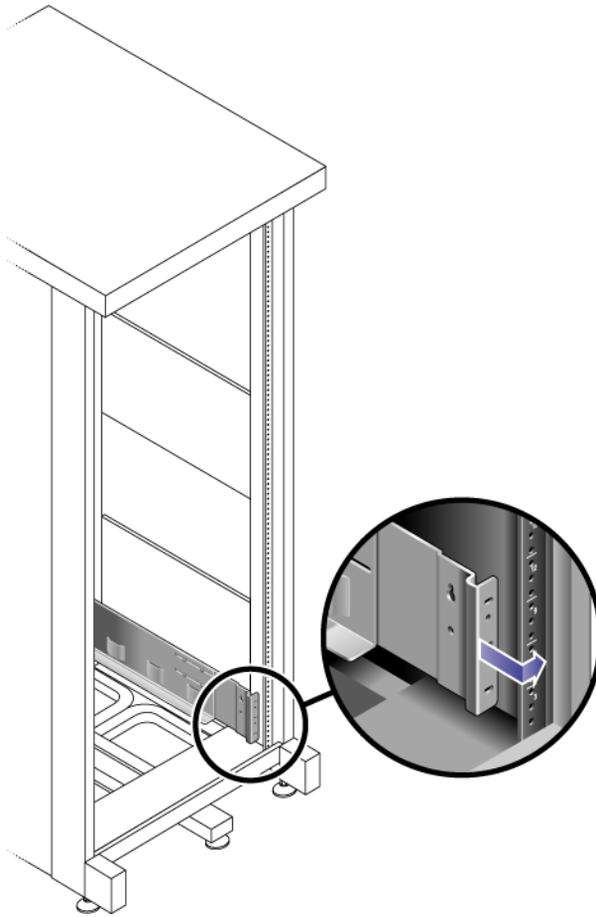

FIGURE 2-4 Adjusting the Length of the Left Rail at the Back of the Cabinet
4. At the back of the cabinet, adjust the length of the left rail as needed to fit the cabinet, and position the rail flange over the face of the cabinet rail (FIGURE 2-4).